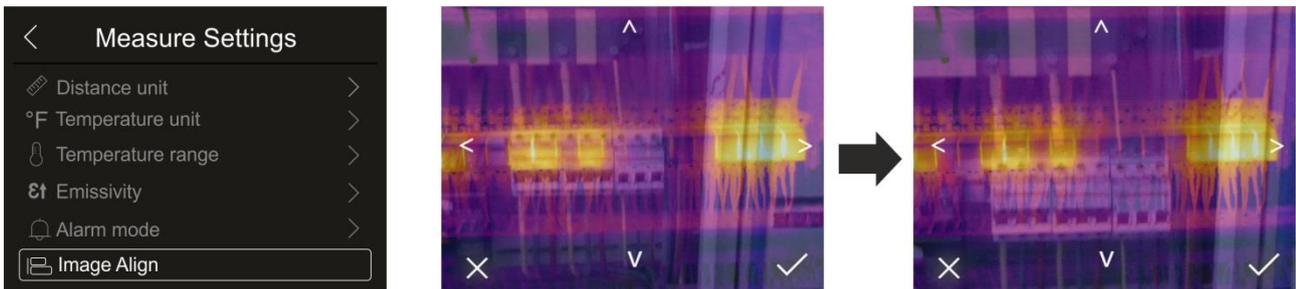

Fig. 27: Alignment of the image on the display
1. Touch the item “Image Align”. Fig. 27 – middle is shown on the display. In this figure, the two images with a low infrared value are overlapping.
2. Touch the 4 arrows on the display in order to move the IR image by overlapping it onto the visible one (see Fig. 27 – right side).